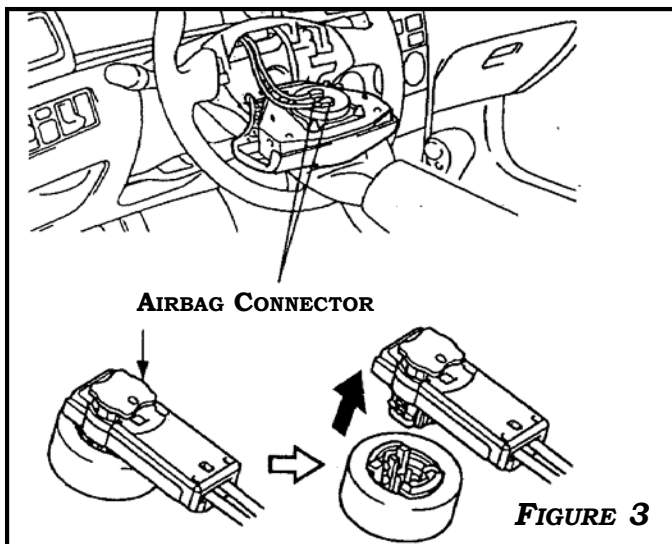

FIGURE 3
2. UTILIZE SMALL SCREWDRIVER TO REMOVE AIRBAG CONNECTORS AS ILLUSTRATED IN **FIGURE 3**.
CAUTION: BE SURE TO STORE AIRBAG FACE UP AS ILLUSTRATED IN FIGURE 3 TO REDUCE INJURY IN EVENT OF ACCIDENTAL DISCHARGE OF AIRBAG.